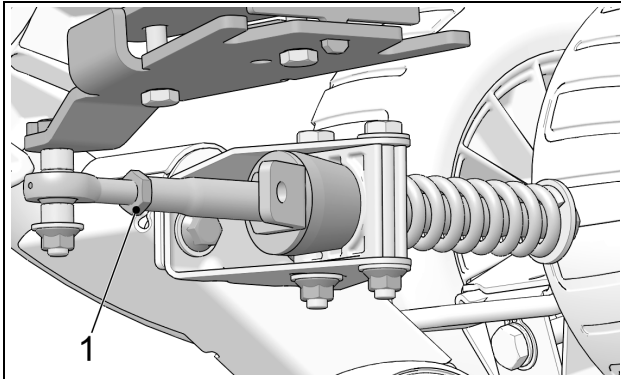

Figure 7
- When angle of attack is correctly set, tighten the jam nut (1) back against the stabilizing arm to 30 ft. lbs. (40 Nm) of torque. See Figure 7.